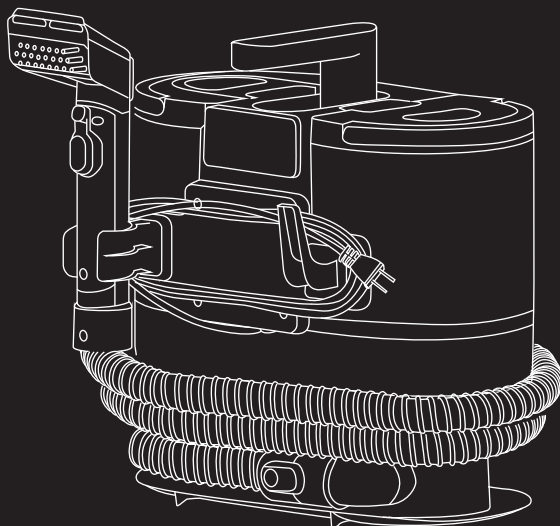

Fig. 20
1. Coil the flexible hose around the lower body and secure the cleaning tool with the cleaning tool holder (Fig. 20).
2. Coil the power cord around the power cord organizer and cleaning tool holder (Fig. 20).